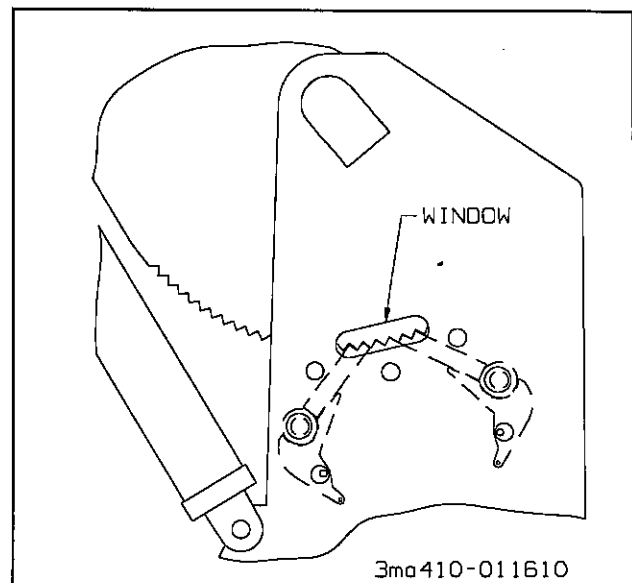

Figure 3-5 Lock Verification Window
- d. Verify that the arm is locked by looking through the window on the arm to see if the cogs are engaged (See Figure 3-5).